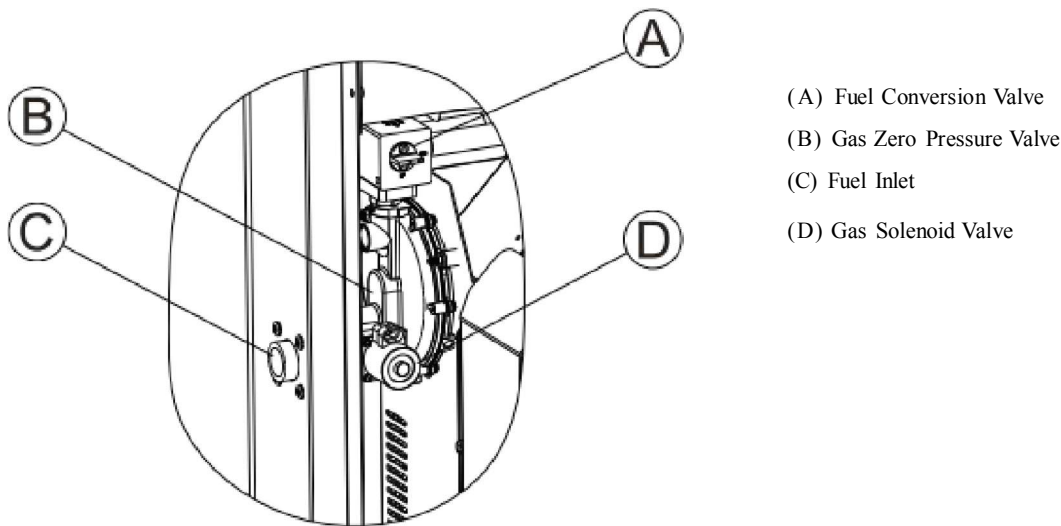

Figure 8
- Install the provided flexible fuel line (B, Fig. 8) between the generator fuel inlet (A) and the rigid piping to prevent excessive stress on the piping materials due to thermal expansion and contraction.
- Provide a joint (C) or flange connection downstream for future service removal.
- Install a manometer test port (D) for vapor fuel.
2. Locate the gas conversion valve (A, Figure 8) on top of the gas zero pressure valve (B).